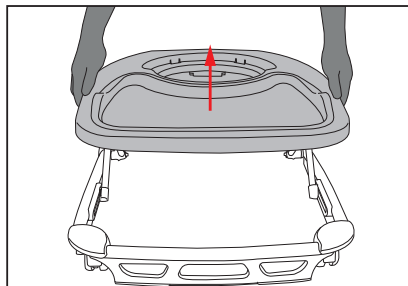

Figure 3.1
- Set the walker upright and pull up on the top part until you hear a click. **See Figure 3.1.**